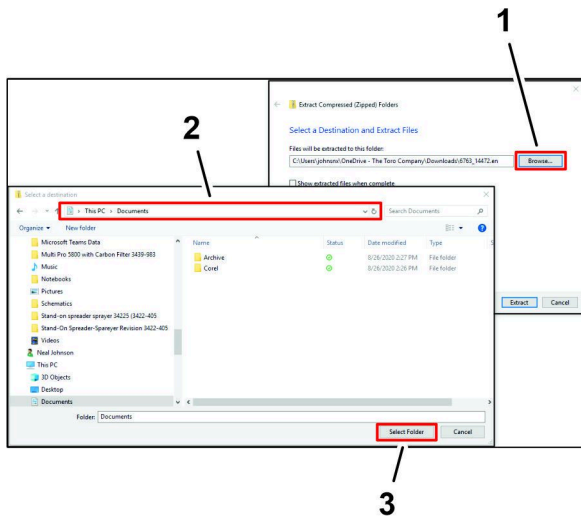

Figure 35
2. In the Extract Compressed dialog box, click the BROWSE button (Figure 35).
3. In the Select a destination dialog box, navigate to the DOCUMENTS folder, and click the SELECT FOLDER button (Figure 35).